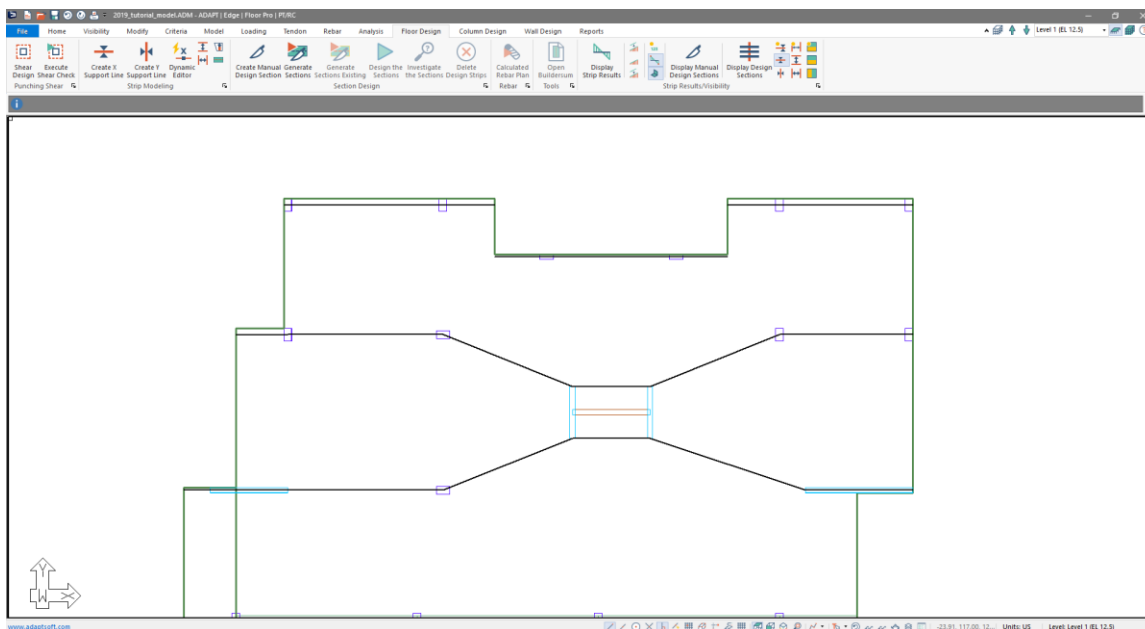

Figure 9-18
- Enter the last support line for the last two supports in the same fashion as you entered the first support line for this column line. When all X-direction support lines are entered the user's model should look similar to **FIGURE 9-18**.